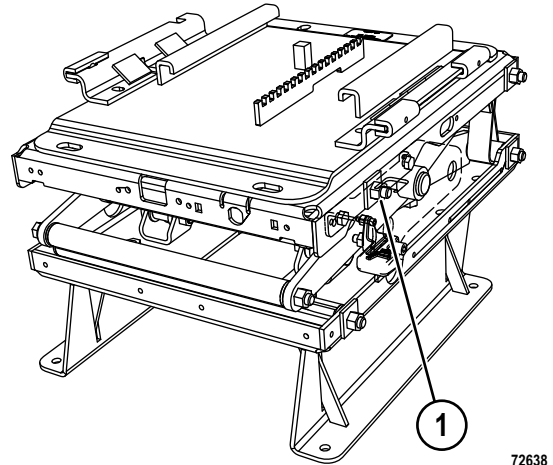

FIGURE 3-9.
3. Remove front bearing shaft nut (1, Figure 3-9).